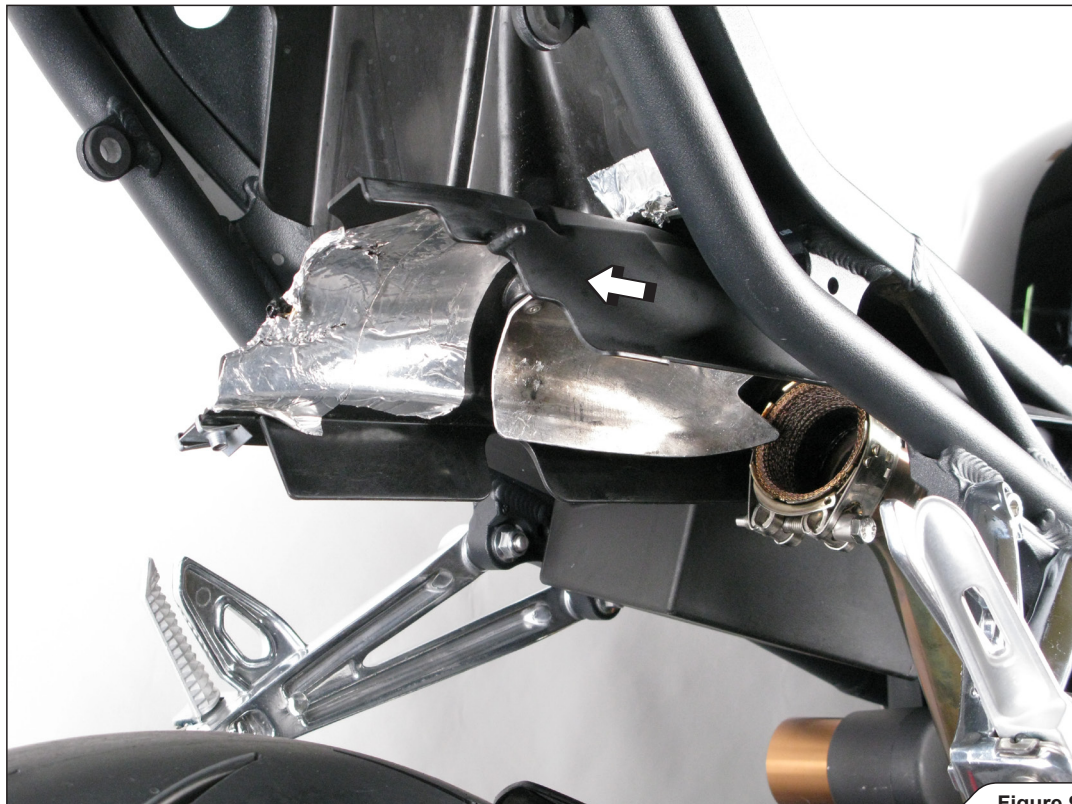

Figure 9
9. Remove the heat shield off the motorcycle (Figure 9).